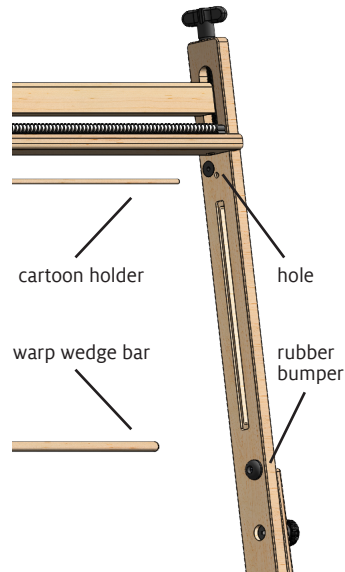

FIGURE 8: ATTACH THE WARP WEDGE BAR AND CARTOON HOLDER
8. Attach the warp wedge bar (1/2" wooden dowel) and cartoon holder (1/4" wooden dowel): Fit the larger dowel between the rubber bumpers on the left and right uprights (Figure 8). Gently flex the smaller dowel and fit it into the holes of the uprights just below the top beam. You can hang a weaving cartoon from this holder with tape, binder clips, zip ties, etc.